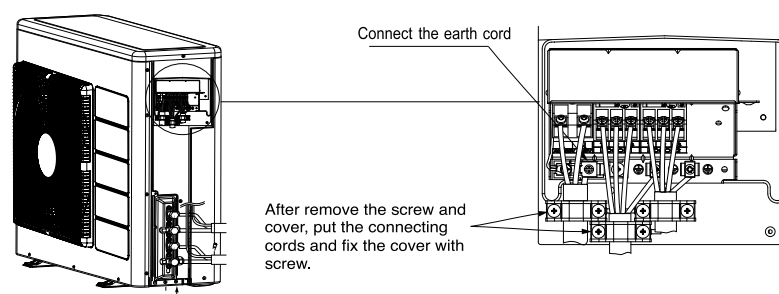

Fig. 1-3
(2) Connect the connecting cord and power cord to the terminal board. (Fig. 1-3)
(3) Fix the connecting cords and power cord with steel band certainly. (Fig. 1-3)